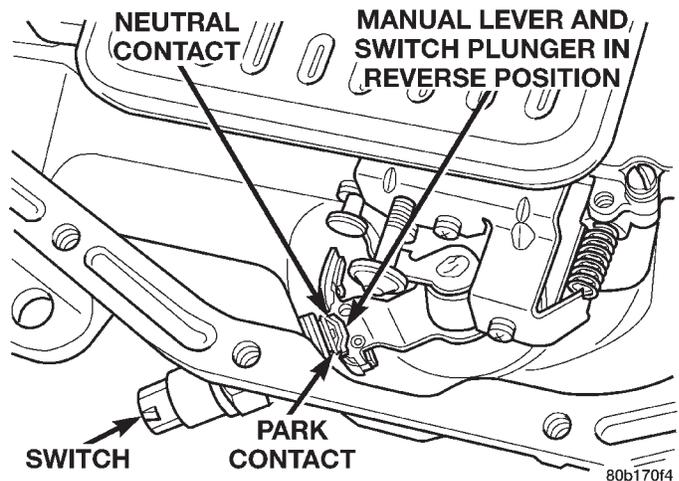

Fig. 31 Park/Neutral Position Switch
- (1) Move shift lever to Park and Neutral positions. Verify that switch operating lever fingers are centered in switch opening in case (Fig. 31).